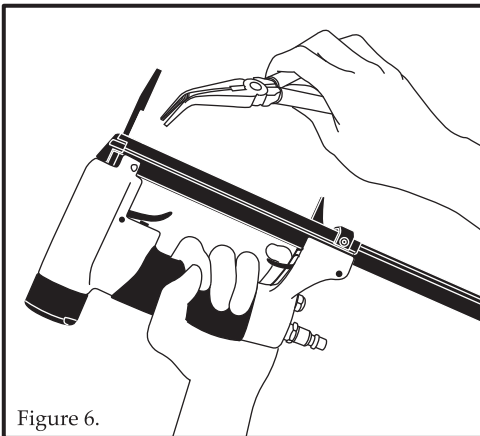

Figure 6.
2. Open the magazine cover and remove remaining fasteners in the magazine. Figure 6.
3. Using long nose pliers, try to pull the jammed fastener out of the stapler nose. Figure 6.